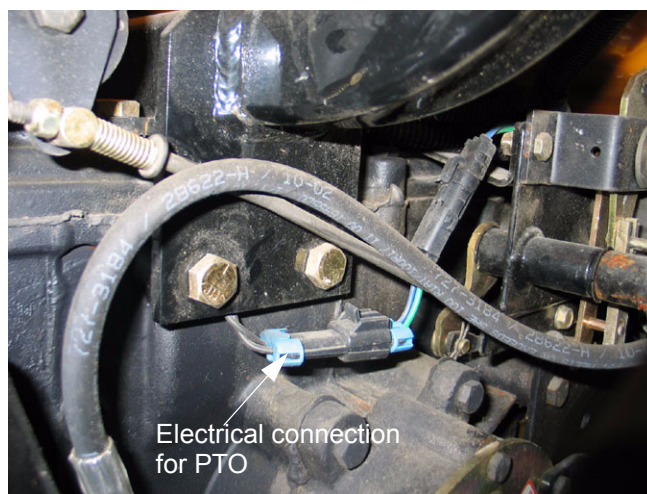

Figure 3.1
3.1. The electric PTO clutch on the Series 6000 and domestic Series 7000 compact tractors is contained inside the transaxle. The wire that provides power to it enters the transaxle housing through a notch in the top edge of the right side of the housing. See Figure 3.1.